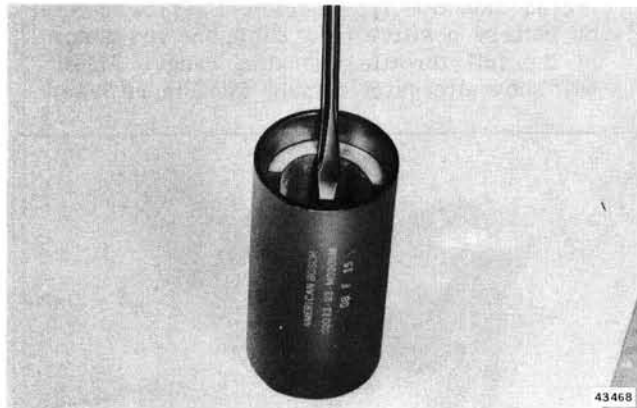

Figure 7-8. Checking Permanent Magnets
d. Check permanent magnets. See Figure 7-8.